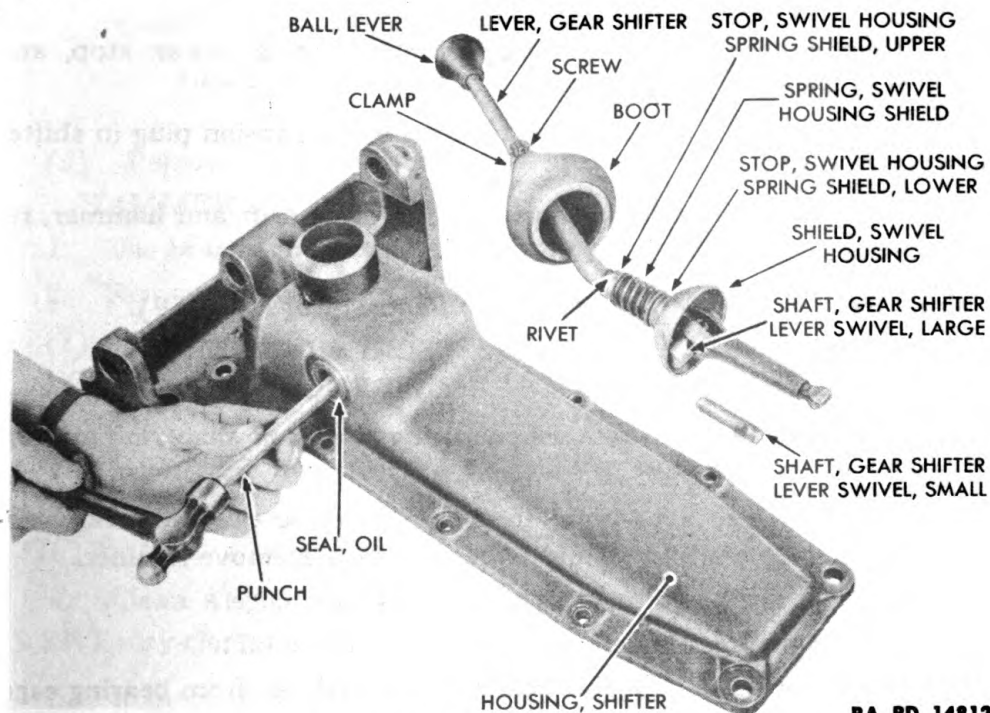

Figure 58 – Shifter Housing Plug Removal
8. Use brass drift and hammer to drive out expansion plug in shifter housing (fig. 58).